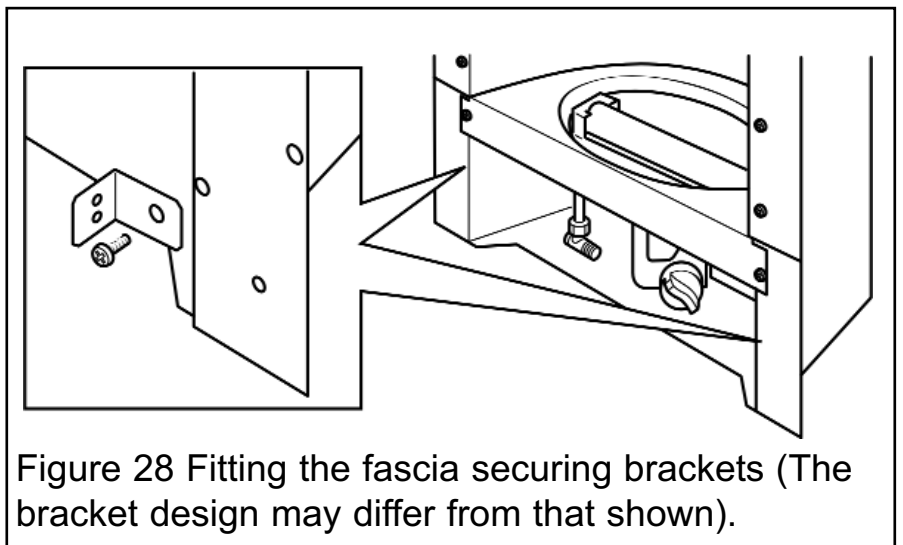

Figure 28 Fitting the fascia securing brackets (The bracket design may differ from that shown).
1. Supplied with the fire are two fascia securing brackets and two machine screws. Secure the brackets to the hotbox using the machine screws supplied (See figure 28).